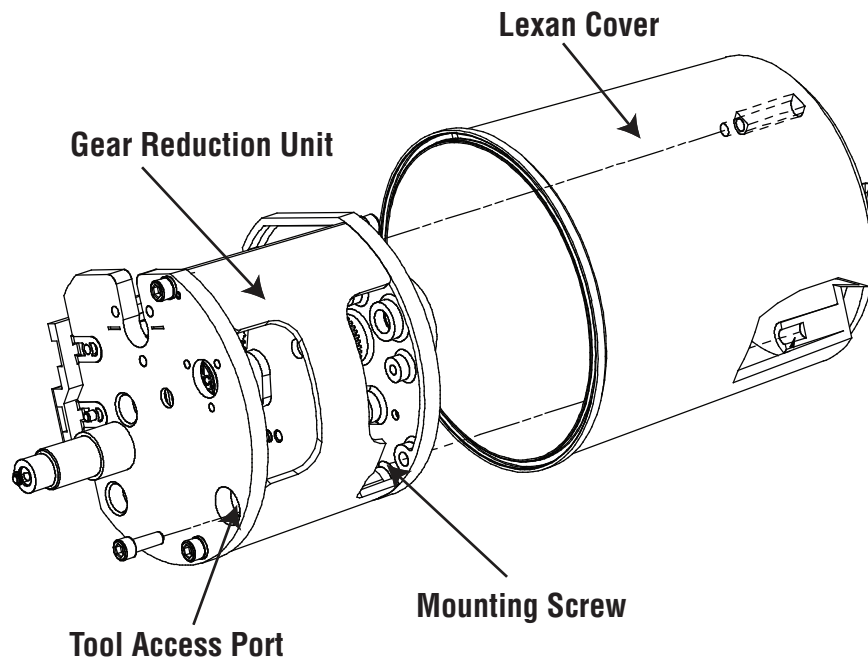

Figure 12 - Exploded view of Gear Reduction Assembly and Lexan® Cover.
Use a 9/64" hex wrench to remove the mounting screw holding the accessory unit in the Lexan® cover. The screw can be accessed through the Tool Access Port as shown in Figure 12.
1. Slide the gear reduction unit into the Lexan cover. Align the odometer with the large, clear window on the cover. When the gear reduction unit is properly installed, the pin that is molded into the bottom of the Lexan cover will engage a hole in the bottom of the plate. (Refer to Figure 12)